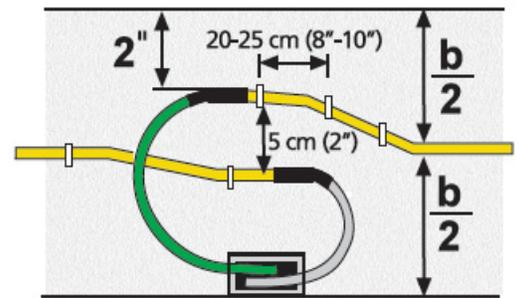

Figure 1
SikaFuko® VT requires a minimum 2" concrete cover and a minimum 2" clearance between two parallel hose sections (Figure 1).
Intersecting hoses are required in most applications. The injection portion of the hose must maintain intimate contact with the concrete; vent sections can be overlapped (Figure 1).
1. Secure the **SikaFuko® VT** Hose to a flat, smooth concrete surface using special plastic clips or pipe clips every 8"-10" on center (see figures 1 and 2). **SikaFuko® VT** should not be installed in a buckled or constricted manner, nor should it be attached to reinforcing bars.